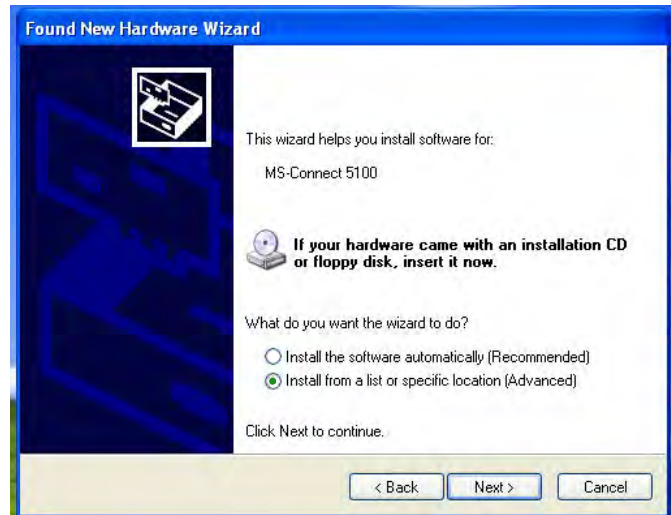

FIG. 15: Load Software from a Specific Location
3. FIG. 15 will appear. Insert the CD in your PC's CDROM drive. Select “Install the software from a list or specific location”, then click Next. The program location is C:\Program Files\Graco\GracoConfig\Device.